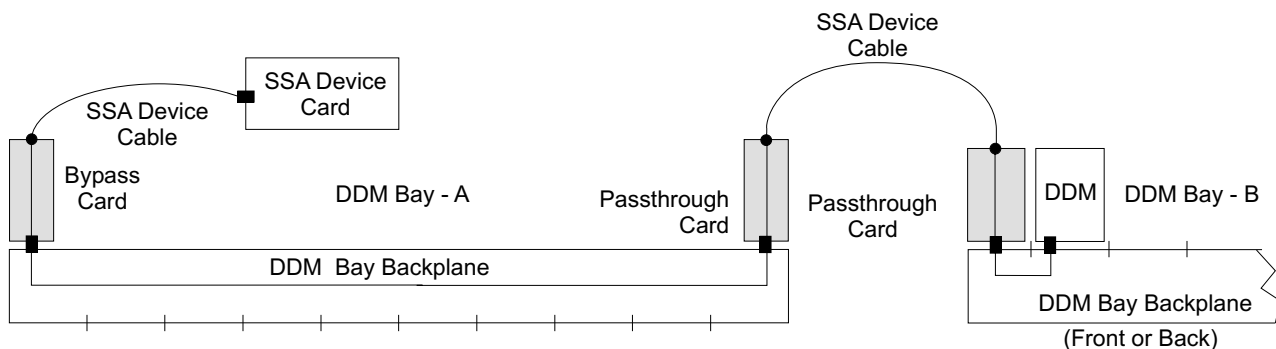

Figure 40. SSA Link Failure, Signal or Bypass Card Link Between a DDM and SSA Device Card (S0080411)
- a. Disconnect one of the two SSA device cables shown in Figure 40 on page 113, and listed in the Problem FRU list.
- If all of the cards shown in Figure 40 on page 113, have been replaced, go to step 12.
- If all of the cards shown in Figure 40 on page 113, have NOT been replaced, repeat this step until all of the cards have been replaced.
- If both of the SSA device cables shown in Figure 40 on page 113, have been replaced, go to step 13.
- If both of the SSA device cables shown in Figure 40 on page 113, have NOT been replaced, repeat this step until all of the cables have been replaced.
- If all of the backplanes shown in Figure 40 on page 113, have been replaced, the SSA link is still failing, call the next level of support.
- If all of the backplanes shown in Figure 40 on page 113, have NOT been replaced, repeat this step until all of the backplanes have been replaced.